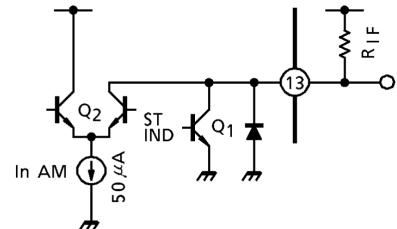

Fig.5 Internal circuit of pin 13
- The terminal of pin(13) is built in stereo indicator function and modulated AM IF signal output. In AM mode, RIF (3kΩ or less) should be connected between VCC and pin(13) , or pin(13) should connected to VCC directly. (Fig.5) In case that RIF >3kΩ or pin (13) is opened, this IC doesn't operate normally in AM mode. Because transistor Q2 is saturated.